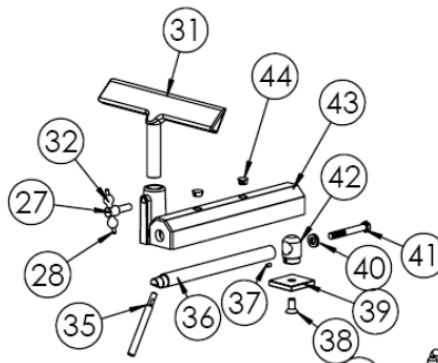

Figure 1: Partial Exploded View of Tool rest
If you find the tool rest on your DVR XP lathe becoming loose during use, some nuts and bolts require tightening. First screw which should be tightened is the **M12 countersunk screw (38)** shown in figure 1.